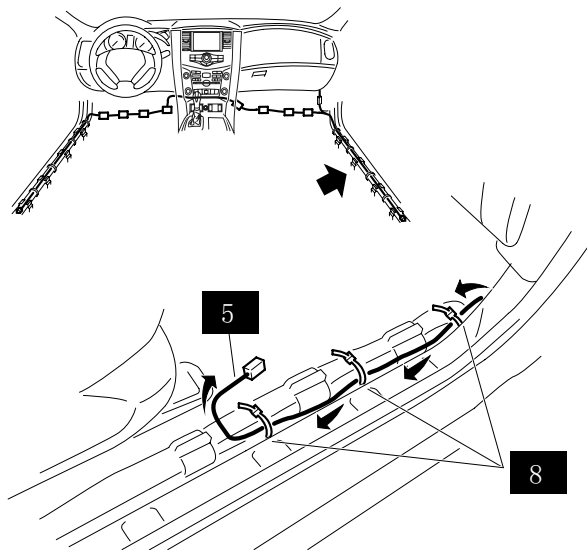

Fig.17
- (13) Route the short Harness **5** along the vehicle harness, and attach the short Harness **5** to vehicle's harness using the Tie Wrap **8**. Shown in Fig. 17. (3 pieces)